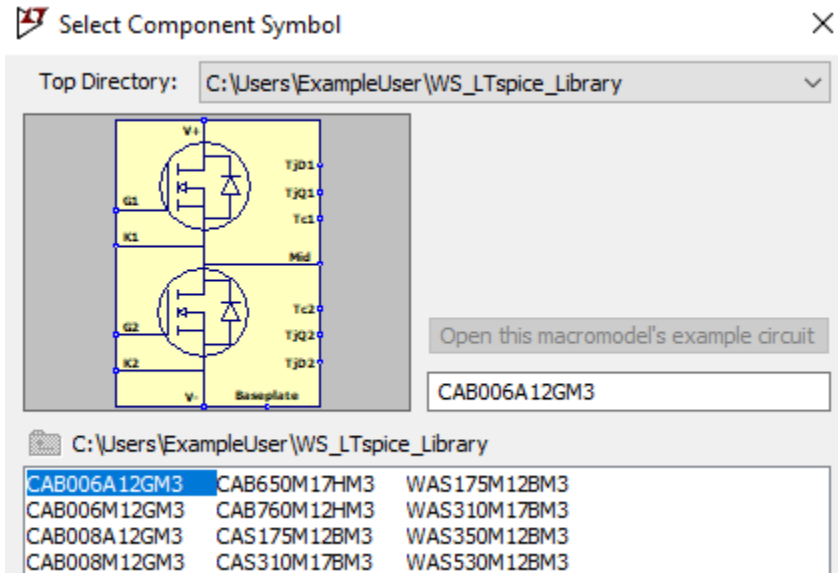

Figure 2: LTSpice select component symbol screenshot
7. You may need to restart LTspice for these changes to take effect. Once completed, the symbol can be placed into any circuit by changing the drop-down arrow on the component symbol selection screen (see Figure 2).